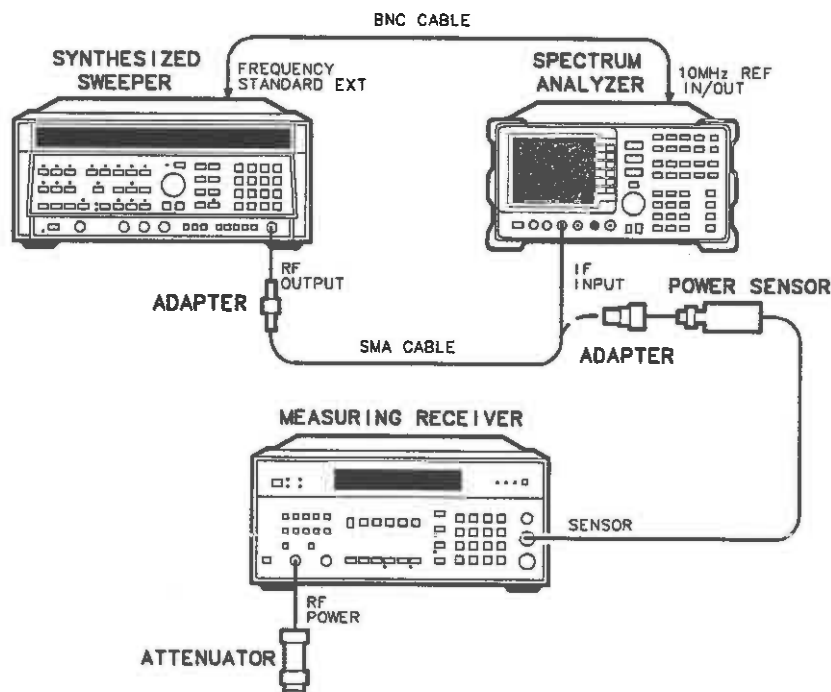

Figure 3-24. IF Input Amplitude Test Setup
1. Connect the equipment as shown in Figure 3-24. The spectrum analyzer provides the frequency reference for the HP 8340A/B.